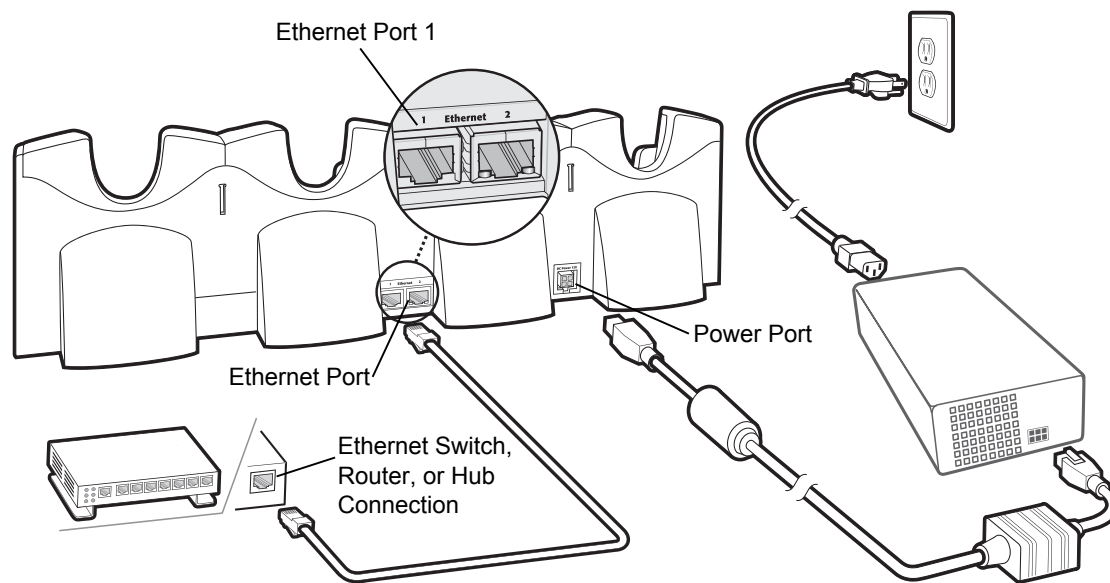

Figure 2-7 Four Slot Ethernet Cradle Connection
2. Connect an Ethernet cable to Port 1 of the first cradle as shown in Figure 2-7.